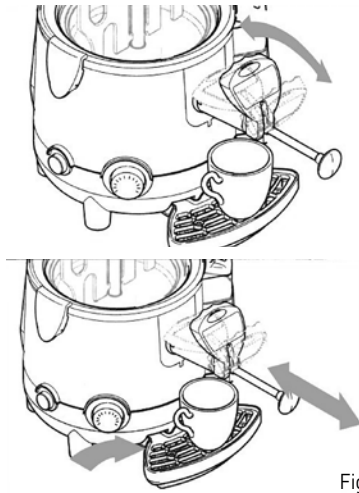

Fig. 1
- If the hot chocolate is passing too low, it is advisable to keep the rod pulled out at the maximum position; any clogging in the dispensing line may be removed by sliding the rod back and forth while keeping the machine, as shown in the Fig.1